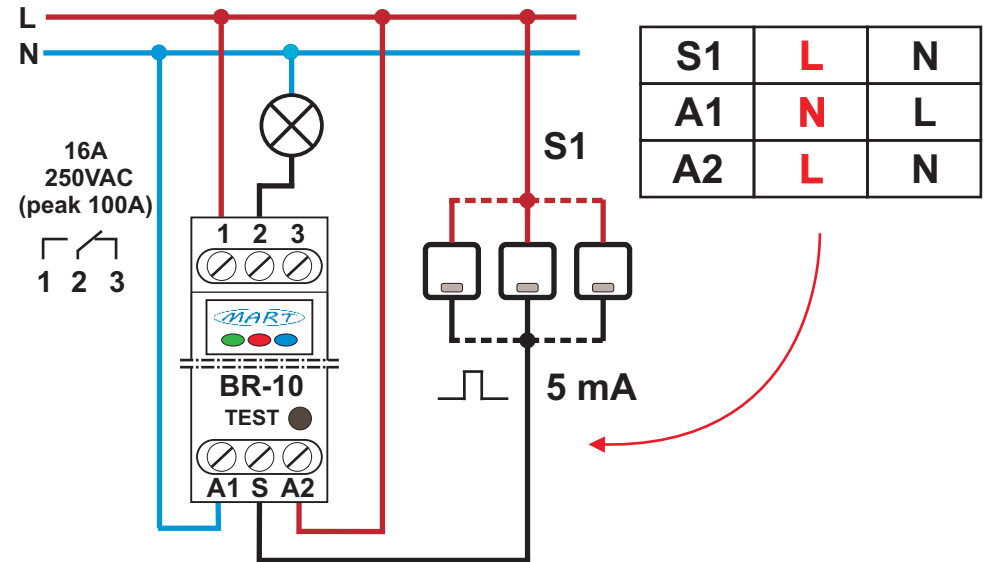

Fig .2. An exemplary diagram of the connection of the BISTABLE RELAY BR-10 along with a table of possible connection variants .
2. connect the RELAY according to the diagram (fig.2, fig.3) in the options: